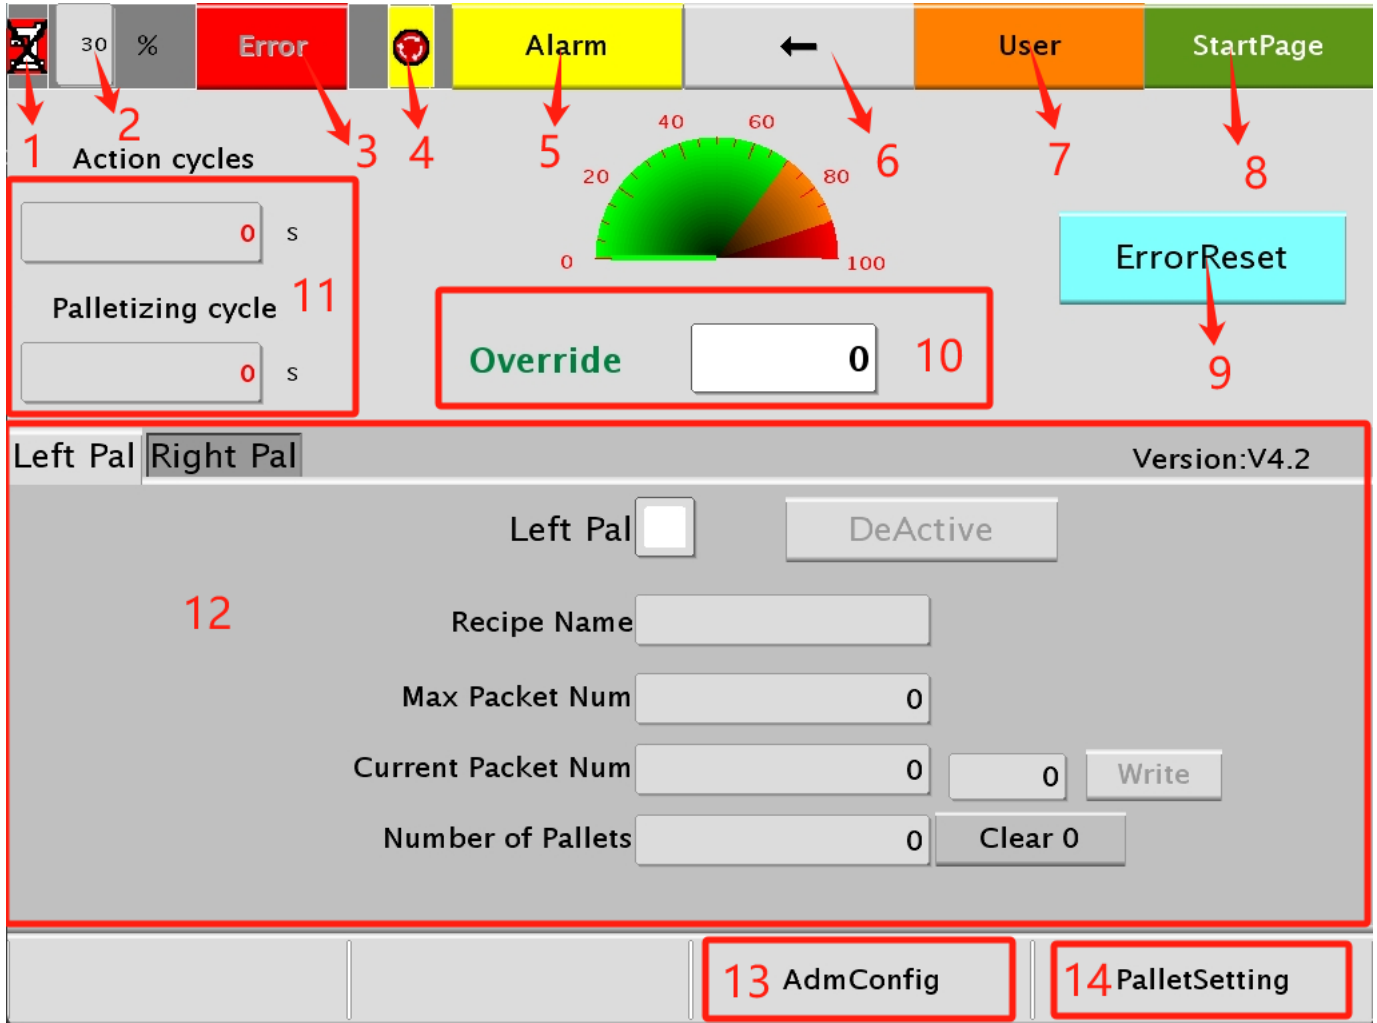

Figure 2
- ①Enable status: Indicates whether the current status is enabled. Red indicates that the status is not enabled (**Figure 2, area 1**).
- ②Speed display: Display the current speed of the robot (**Figure 2, area 2**).
- ③Alarm status: indicates whether there is an alarm at present (**Figure 2, area 3**).
- ④Emergency stop state: When the emergency stop button is pressed, this state is red (**Figure 2, area 4**).
⑥Return: Return to the previous interface (Figure 2, area 6).
⑧**Start Page:** The screen after the device starts up, also the normal production status page.
⑨**Error Reset:** Click here to clear the alarm after confirming the alarm content.
⑩**Robot speed :** The current speed setting of the palletiser operation, up to 100. can be modified directly by clicking on the (Fig. 2, area 10).
⑪**Action cycle time:** Monitors the time it takes from gripping to finishing.
1、 first set the "Jog Velocity", in order to ensure safety, the speed should not be too large, it is recommended that the "Jog Velocity" is set below 30 and (Fig. 2, area 10) speed is also below 30.
1, first set the " **Jog Velocity** ", in order to ensure safety, the speed should not be too large click, it is recommended that the " **Jog Velocity** " is set at 30 or less and the speed of (Fig. 2, area 10) is also below 30.